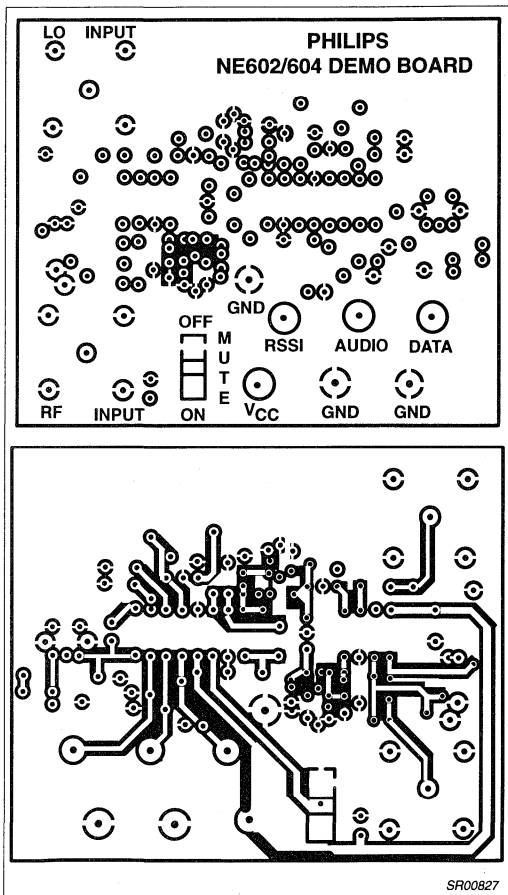

Figure 8. Circuit Board Layout
As mentioned, a single layout was used for each of the examples. The board artwork is shown in Figure 8. Special attention was given to: (1) Creating a maximum amount of ground plane with connection of the component side and solder side of ground at locations all over the board; (2) careful attention was given to keeping a ground ring around each of the gain stages. The objective was to provide a